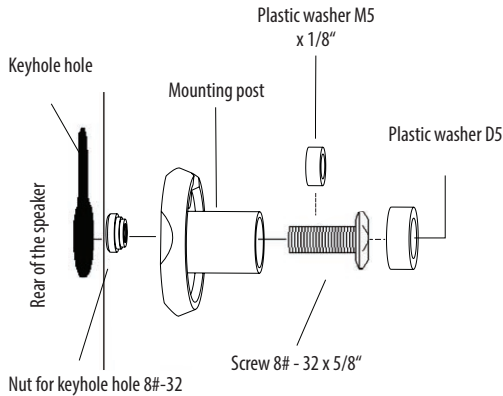

Figure 4
2. Assemble the mounting post with 8 # - 32 x 5/8" screws and keyhole nuts, but do not tighten the screws or the nut (see Figure 4).
4. While tightening the 8 # - 32 x 5/8 "screws (see Figure 4), gently push on the rear of the speaker to facilitate tightening of the screw.
6. If the post is not securely attached to the speaker, an M5 x 1/8 "plastic washer will need to be used as a spacer under the head of the 8" -32 x 5/8 "screw (see Figure 4).